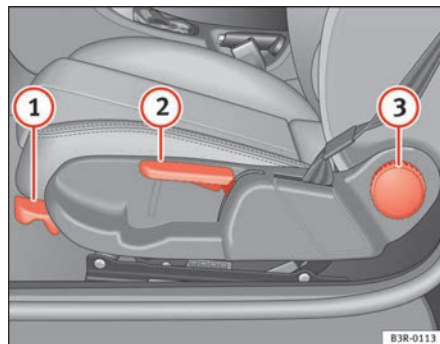

Fig. 104 Adjuster controls on driver's seat
- Lift the lever ① ⇒ fig. 104 and move the seat to the desired position.
- Then release the lever ① and move the seat further until the catch engages.
- Pull the lever ② ⇒ fig. 104 up repeatedly until the seat is in the desired position.
- Turn the adjuster wheel  ⇒ page 130, fig. 104 to set the angle of the backrest as required.